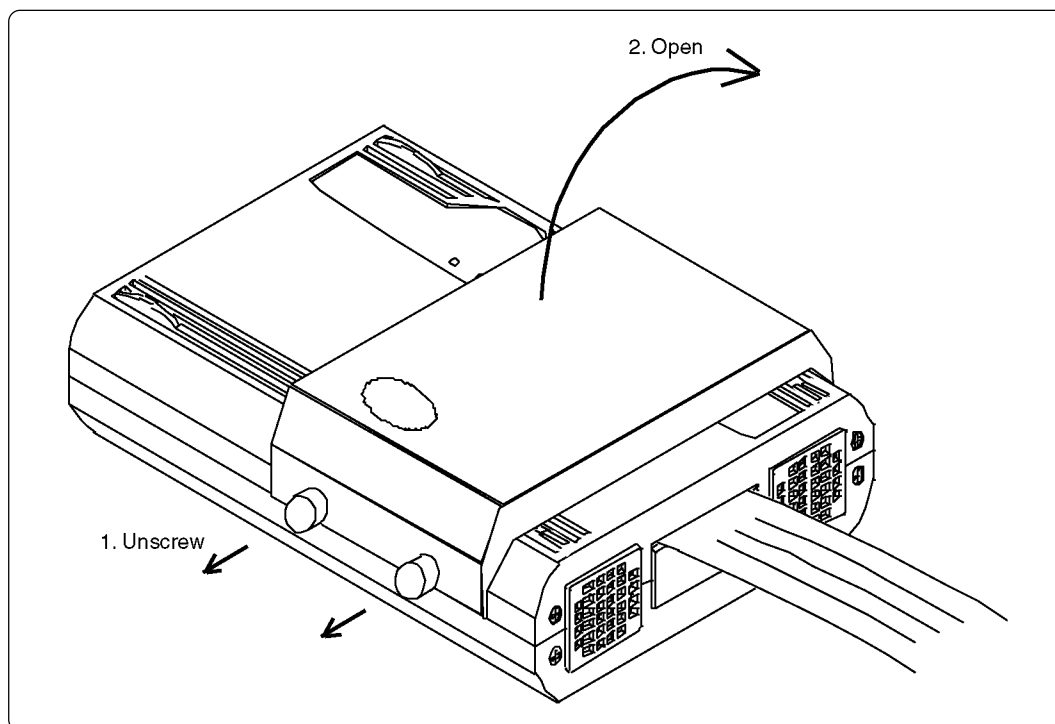

Figure 3.1 Opening the upper cover
- (1) Remove the two screws of both sides of this product and lift off the metal cover (see Figure 3.1).
- (2) Set the jumper switches.
- (3) Replace the metal cover and secure the two screws.